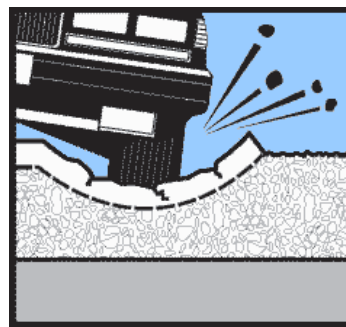

Figure 4: Once Formed, Traffic Enlarges Potholes (1)
- Once a hole is formed, it will continue to grow until it is repaired. Figure 4 illustrates the role traffic plays in enlarging a pothole.